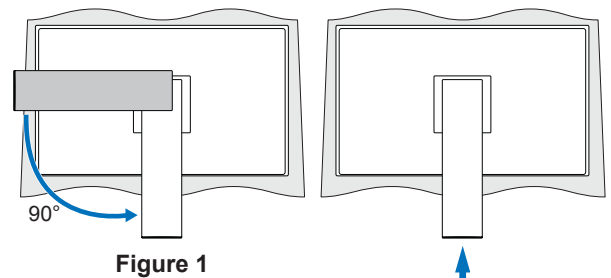

Figure 1
1. Place the monitor face down on a non-abrasive surface (Figure 1).
2. Please rotate the stand 90 degrees as shown in Figure 1.